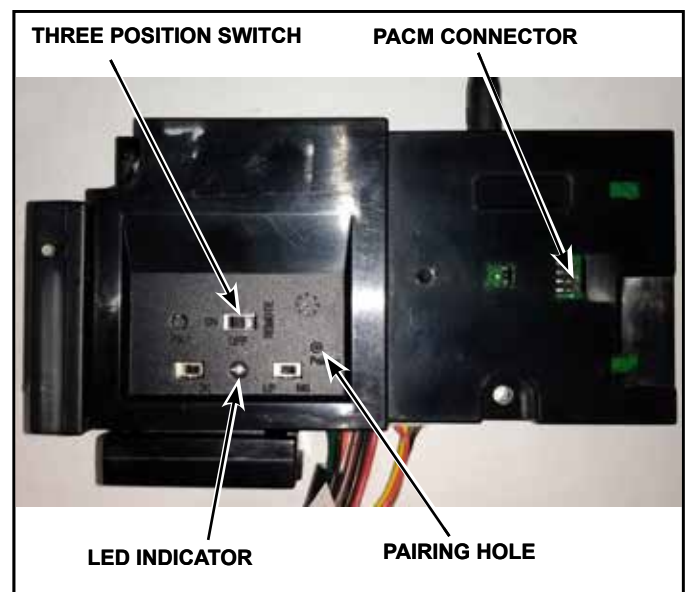

Figure 1 IFT2-ECM
2. Locate the IntelliFire Touch electronic control module (IFT2-ECM) in the control cavity of the appliance and move the three-position switch to the OFF position. See Figure 1.
3. Remove protective rubber cap from connector on the top of the IFT2-ECM. See Figure 1.